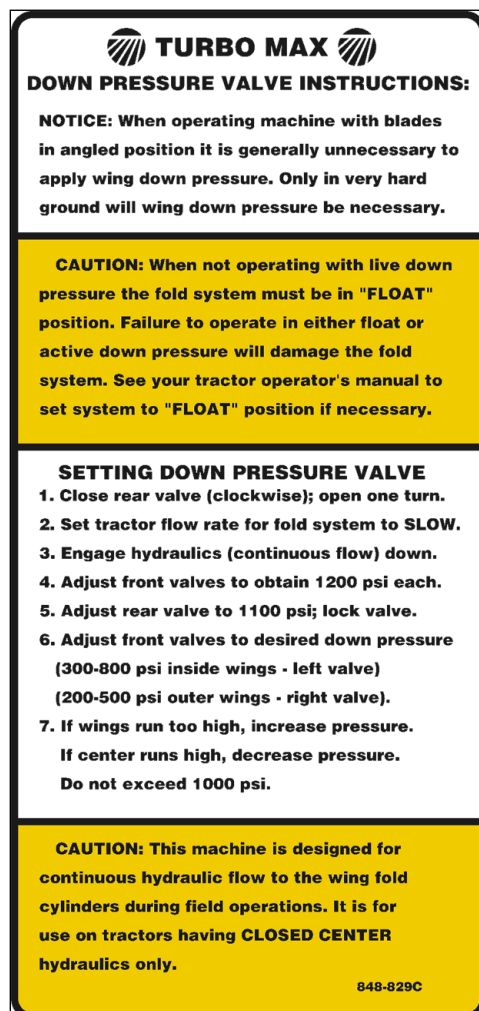

Figure 25
Note: This setup procedure is for tractors with closed-center or pressure compensated flow hydraulic systems. Open center hydraulics not supported. Adjust down pressure valve as shown on decal ④ (located on front of left side of center frame) *Refer to Figure 25*
44. Close rear valve ① (clockwise); open 1 turn.
47. Adjust front valves ② and ③ to obtain 1200 psi each.
48. Adjust rear valve ① to 1100 psi; lock valve.
49. Adjust front valves to desired down pressure 300-800 psi inside wings-left valve ② and 200-500 psi outer wings-right valve ③.